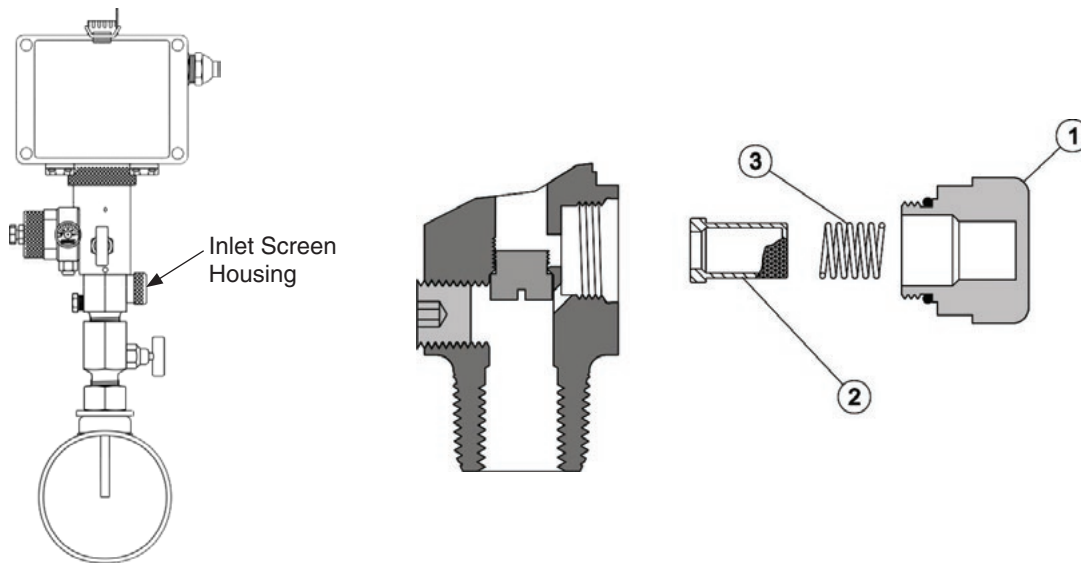

Figure 34: Replacement of Inlet Screen Housing
1.7 Inspection/Replacement of Inlet Screen (refer to Figure 34)